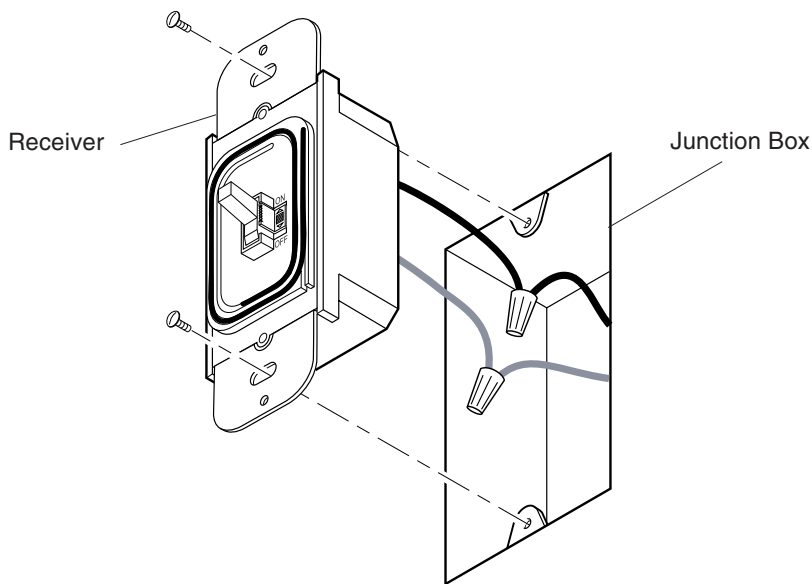

Figure 1 - Receiver Installation
4. Connect a wire coming from the receiver to one wire you removed from the switch. Use one of the supplied wire connectors to secure the wires (see Figure 1).